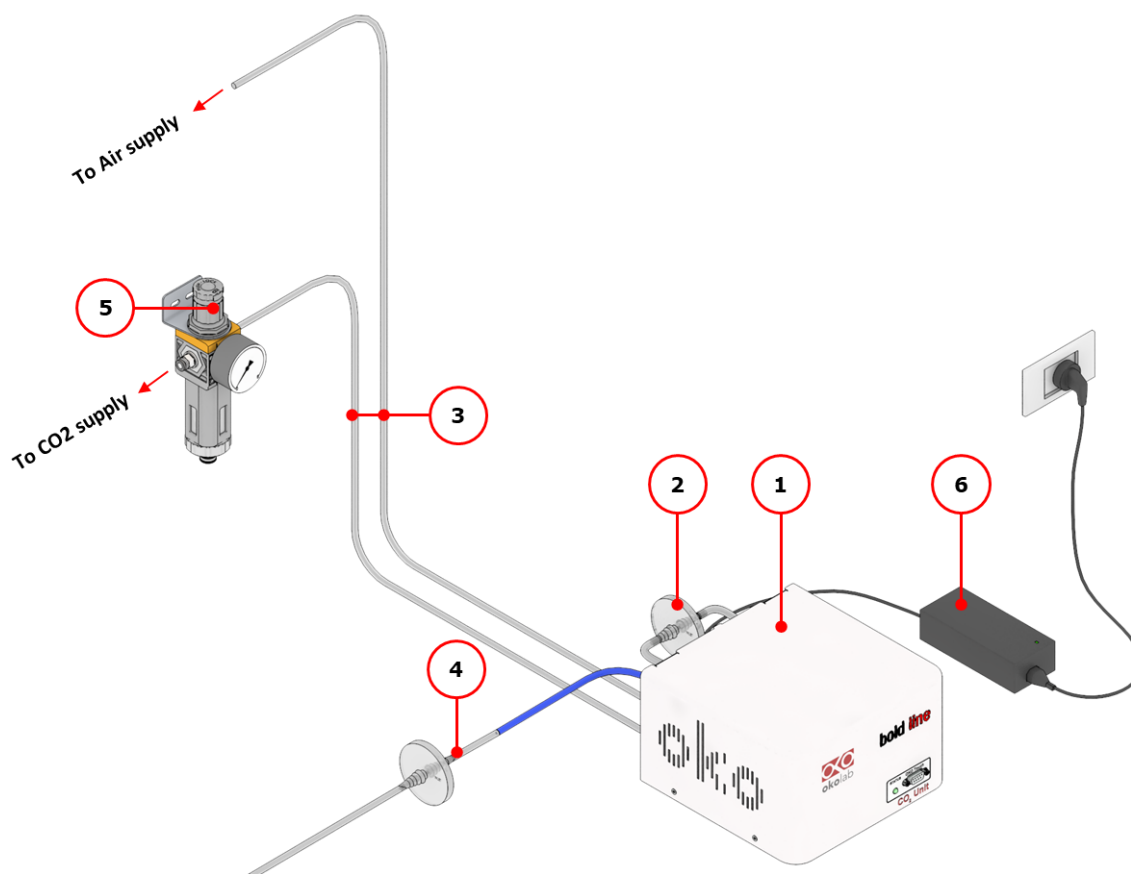
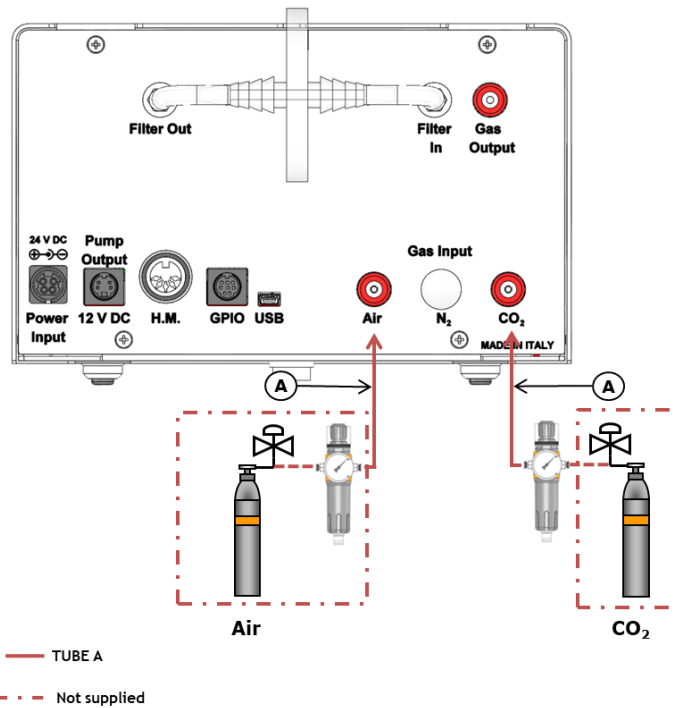

Figure 1. CO2-UNIT-BL – components.
Figure 11. CO₂ and Air Tanks connections to the rear panel of the CO₂ Controller.
4. Figure 11 shows the connections between the CO₂ and Air tanks and the respective connectors on the rear panel of CO₂-UNIT-BL (see pointer 3 in Figure 1).
6. Connect the power adapter to CO2-UNIT-BL (6 in Figure 1).